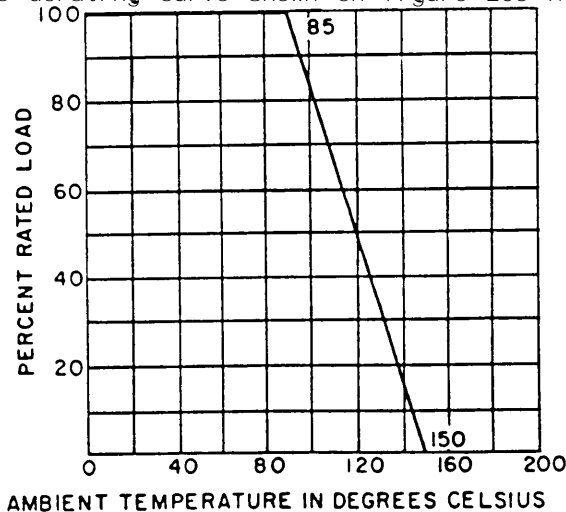

FIGURE 206-1. Derating curve for high-ambient temperature.
2.1.3 Power rating. These resistors may be used at the full nominal wattage at an ambient temperature of +85°C. When a resistor is to be used where the surrounding temperature is higher than +85°C, a correction factor must be applied to the wattage rating so as not to overload the resistor. This correction factor may be taken from the derating curve shown on figure 206-1.